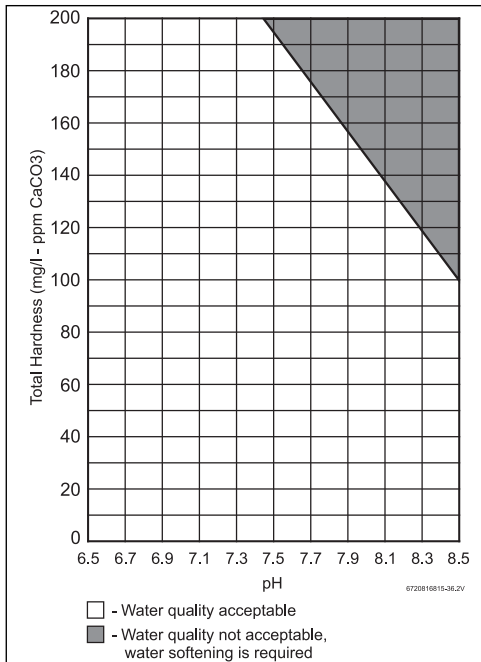

Fig. 26 Water total hardness and pH values
Water quality can have an impact on appliance longevity. Water supplied to the Infiniti Tankless™ K-Series must be in accordance with table 17 and fig. 26.
For water analysis data call your local water department, or if on a well, have well water analyzed periodically. Heavy scale will form if the combination of water total hardness and pH exceeds the values specified in fig. 26 (grey area), Bradford White recommends consulting a local water treatment professional for water softening/conditioning options.
1. Total Hardness and pH maximum values must be evaluated in combination. Indicated maximum values will be reduced according to fig. 26.